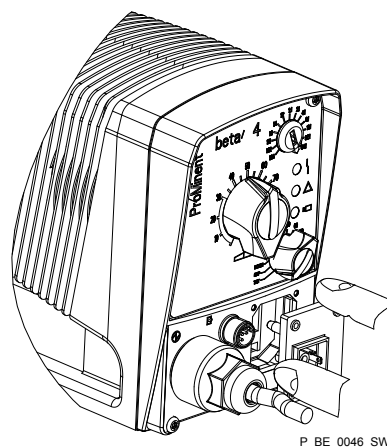

Fig. 42: Fitting the relay board
1. ➤ Hold the relay board by the edge of the relay cover Fig. 42.